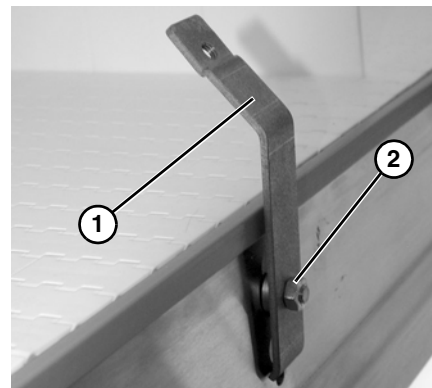

Figure 19
2. Attach the guide mounting brackets (**Figure 19, item 1**) to the conveyor with hex nuts (**Figure 19, item 2**). Hand tighten only at this time.